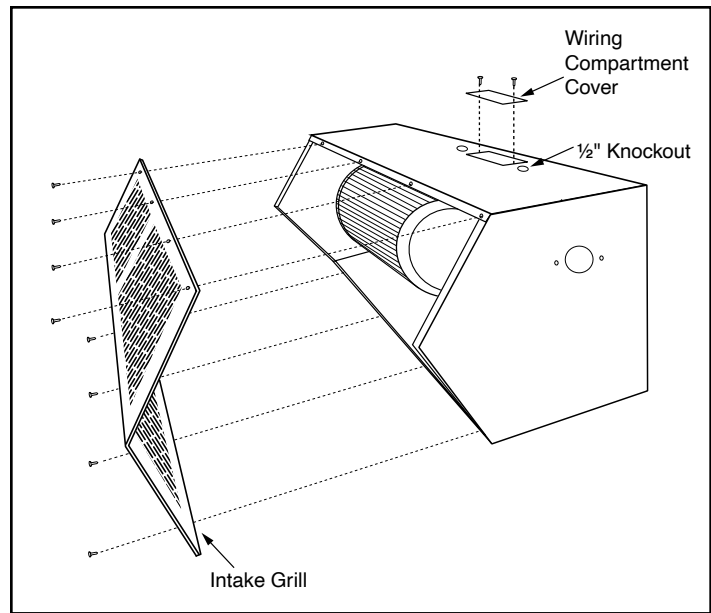

FIGURE 9
- B. Remove the intake grille by removing all phillips head screws around edge. **See FIGURE 9.**
2. Remove the intake grille by removing all phillips head screws around edge. **See FIGURE 9.**